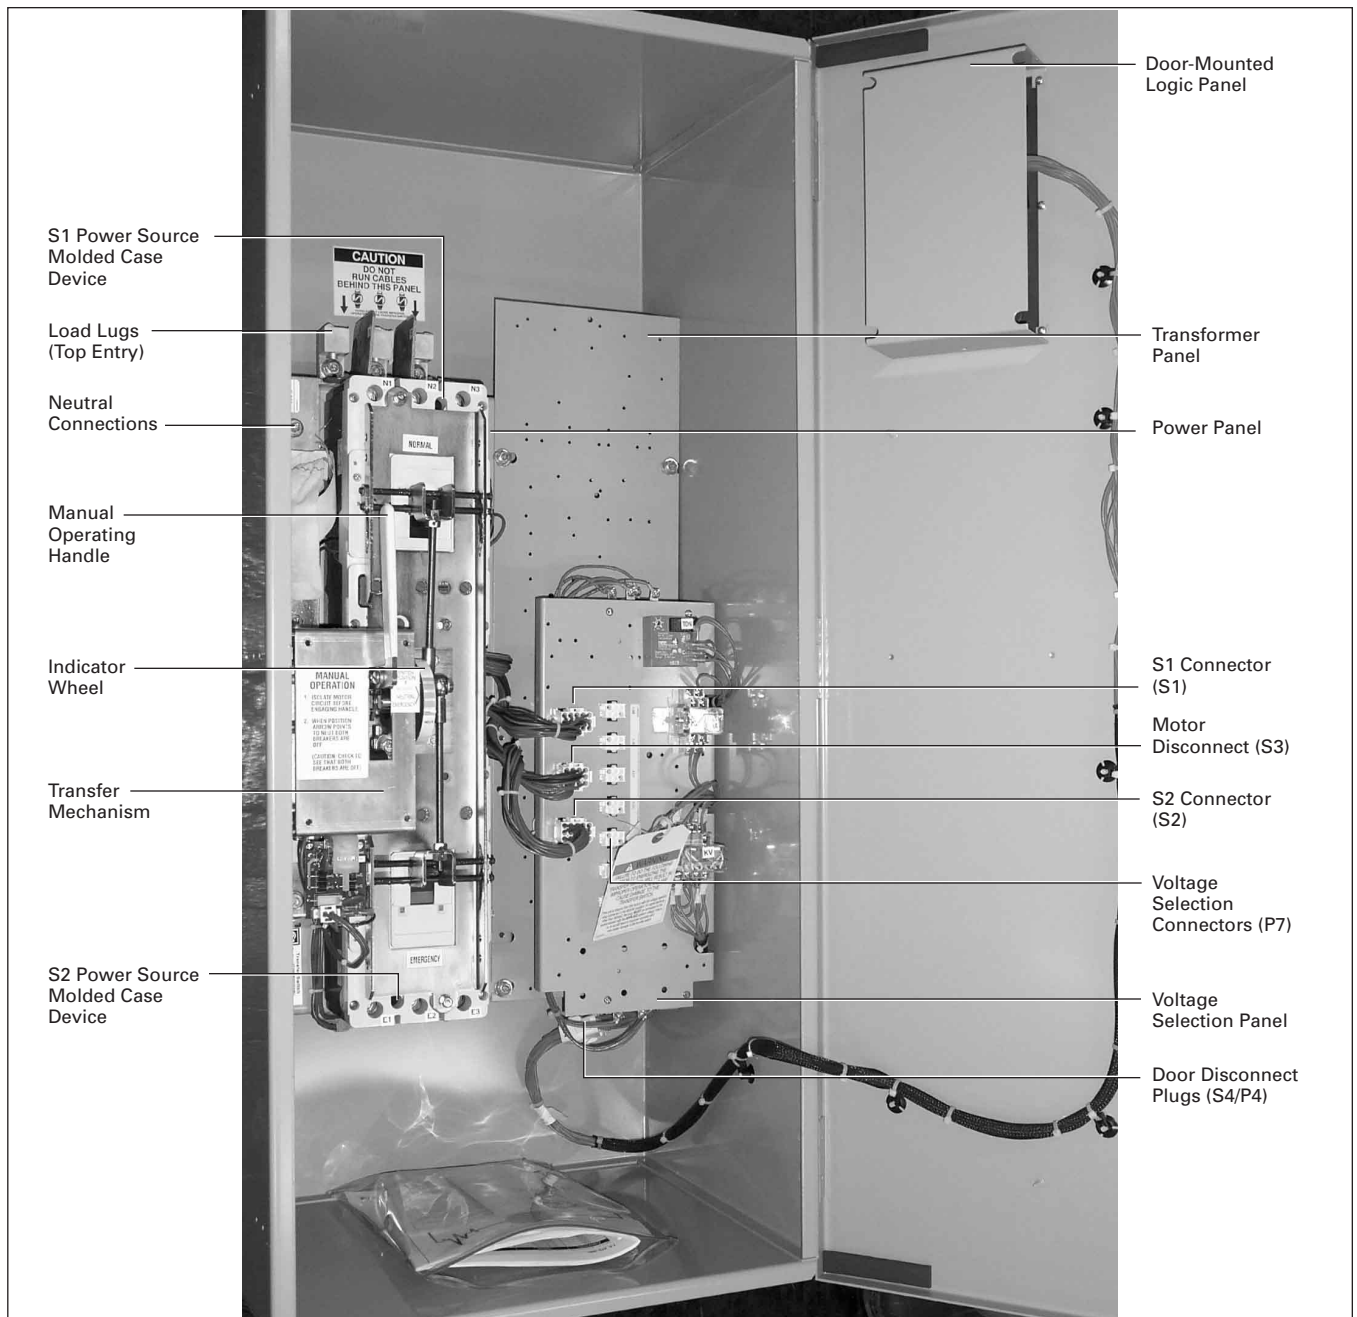

Figure 15. Typical (225 – 1200 Amperes) Vertical Design Transfer Switch Equipment (Door Open and Deadfront Shield Removed)
- Step 1:** Disconnect the power panel from the rest of the transfer switch by unplugging the connector plugs (S1, S2 and S3) (Figure 15).
The vertical design transfer switch utilizes a mechanical mechanism with a manual operating handle (**Figure 15**). The manual operating handle can be used to create the rotational motion required to open and close the main contacts through a rigid mechanical interlocking system (**Figure 18**). An indicator wheel attached to the operating handle and mechanical interlocking system rotates with each movement of the handle to open and/or close the main contacts (**Figure 19**). The three switch positions (Normal, Neutral and Emergency) are visually indicated on the indicator wheel (**Figure 20**).